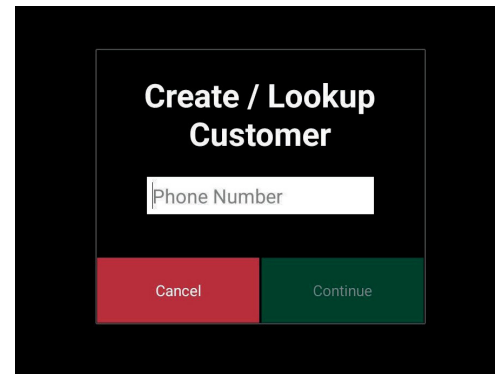

Figure 79
2. From Customer Menu - You can Look up by Account ID, Phone #, or Email. Select the option according to the information provided by the customer (Figure 79).